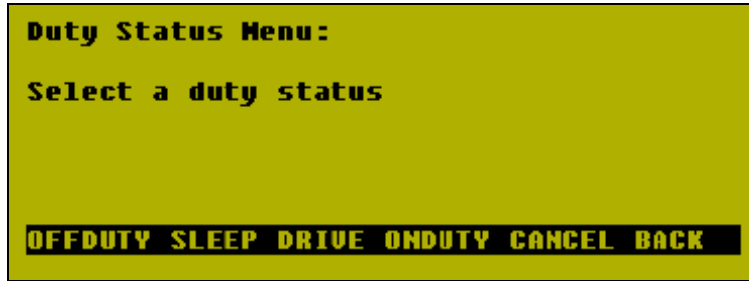

Figure 6: Duty Status Menu
2. Press the **Duty Status** soft key. The **Duty Status** menu, shown in Figure 6, appears.